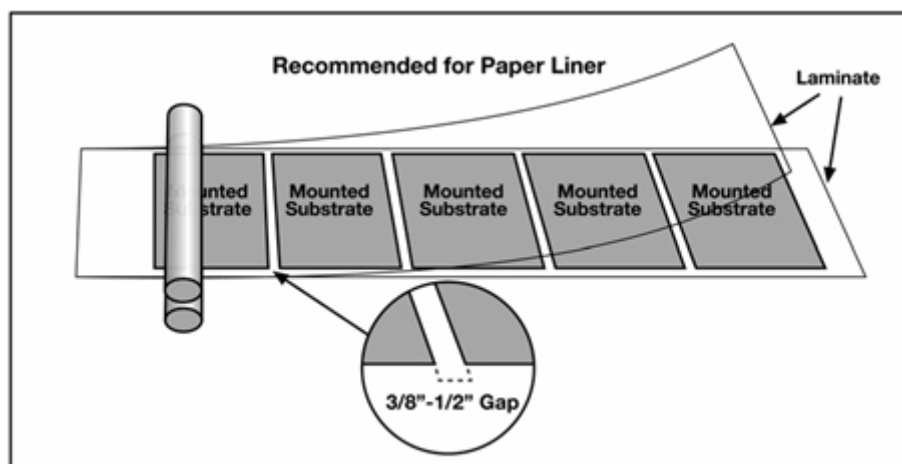

Figure 5f
9. After exiting the laminator, the coated substrate should be split apart and trimmed (Figure 5f).